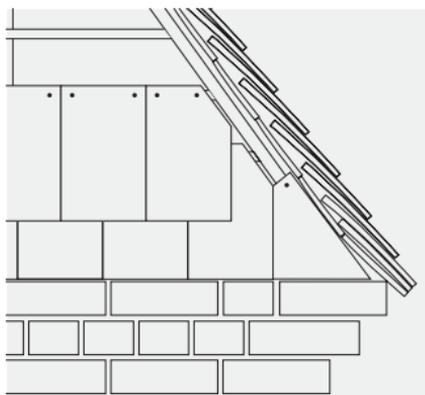

Fig. 33 – Cut tile to meet rake of verge
- 2 Form raking cuts using tile-and-a-half tiles as necessary (Fig. 33).